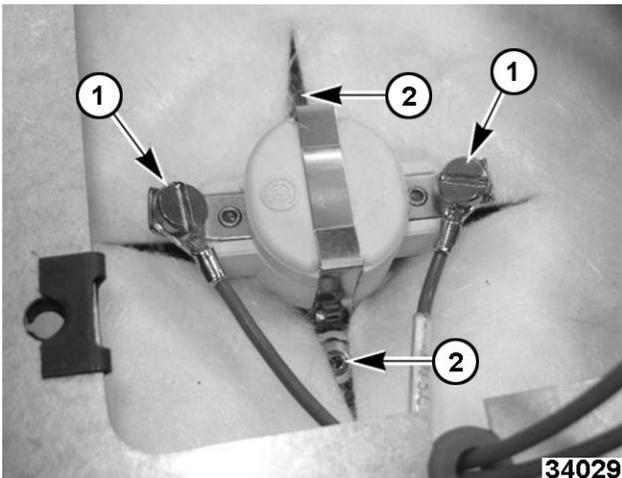

Fig. 53
- 4. Note and disconnect high limit wiring (1, Fig. 53).
- 5. Carefully move insulation (2, Fig. 53) to access high limit mounting screws.